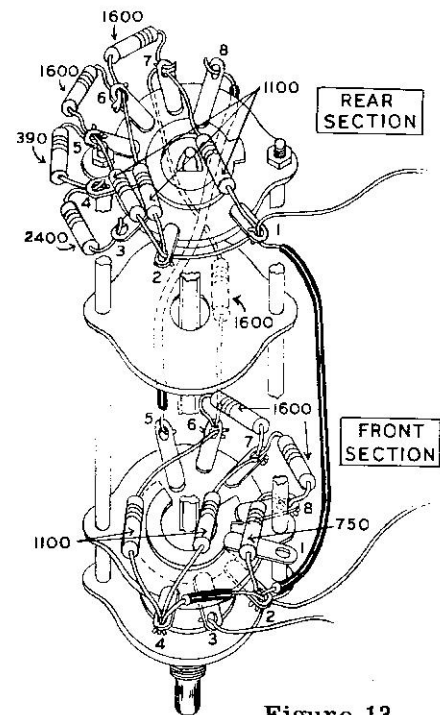

Figure 13
- ( ) Locate switch #63-107 and position it as shown in Figure 13.
- ( ) Connect a 750  $\Omega$  resistor between lug 2 (NS) and lug 8 (NS) on the front section.
- ( ) Connect a 1600  $\Omega$  resistor between lug 8 (S) (2) and lug 7 (NS) on the front section.
- ( ) Connect an 1100  $\Omega$  resistor between lug 4 (NS) and lug 7 (NS) on the front section.
- ( ) Connect another 1600  $\Omega$  resistor between lug 7 (S) (3) and lug 6 (NS) on the front section.
- ( ) Connect another 1100  $\Omega$  resistor between lug 6 (NS) and lug 4 (NS) on the front section.
- ( ) Connect a third 1600  $\Omega$  resistor between lug 6 (S) (3) on the front section and lug 7 (NS) on the rear section.
- ( ) Connect a bare wire (cover with sleeving) between lug 5 (S) on the front section and lug 8 (S) on the rear section.
- ( ) Connect a 3" bare wire between lug 4 (S) (3) and after slipping a 1/2" length of sleeving on, place the lead through lug 2 (NS) on the front section. Leave the excess bare wire for eventual connection to a binding post.
- ( ) Connect a 1 1/2" bare wire to lug 3 (S). Leave the other end for eventual connection to the load switch.
- ( ) Connect a 3" bare wire to lug 2 (S) (3) on the front section and after slipping on a 1" length of sleeving, place through lug 1 (NS) on the rear section. Leave the excess length for eventual connection to the controls.